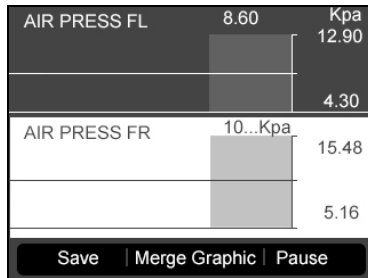
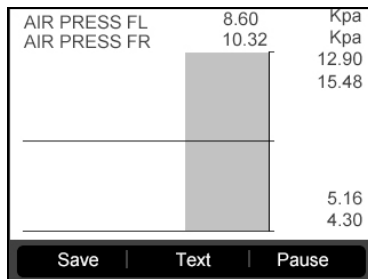

Figure 4.33
Figure 4.34
- When the sensor data is shown in graph, the tool offers two more options: **Two Graphics** and **Merge Graphic**. The first option can display two graphs on the same screen (Figure 4.33), and the last option can merge the two graphs into one. (Figure 4.34).